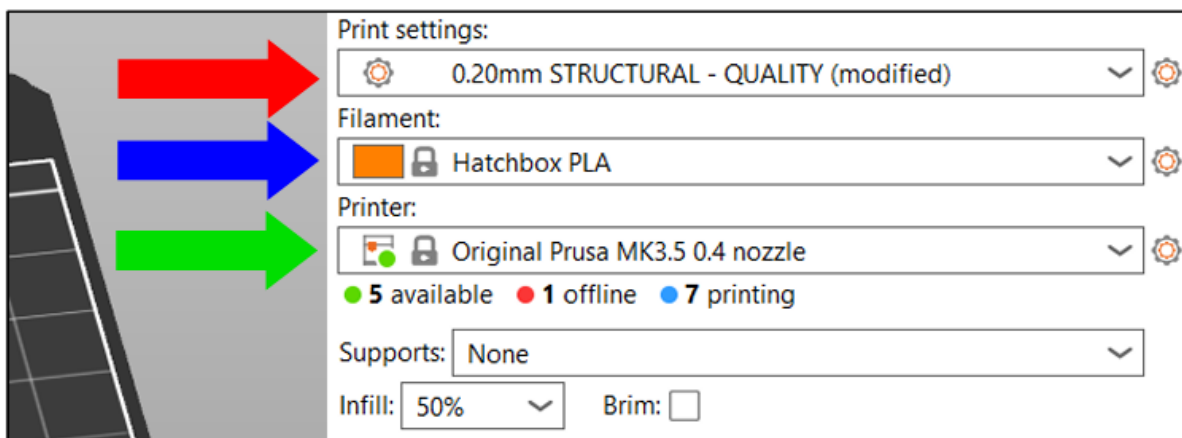

Figure 3
4) Go back to the “Plater” tab in the top left corner of PrusaSlicer. Then click the “Print settings” drop-down menu and select the 0.20mm Structural option (see red arrow in Figure 3). a. Note: The titles of each print setting option will vary slightly between printer models, so there may not be an option matching this wording exactly – that’s ok! What’s important is that you select one of the 0.20mm options.
5) Open the Filament drop-down menu (see blue arrow in Figure 3) and select the filament type you want to print in. a. Note: The recommended material for this device is PLA, but PETG is also acceptable.
7) Open the Printer drop-down menu (see green arrow in Figure 3) and select your printer make and model. a. Note: If you don't see your specific printer in the drop-down menu, follow these instructions to add them: https://help.prusa3d.com/article/configuration-wizard_1754 .